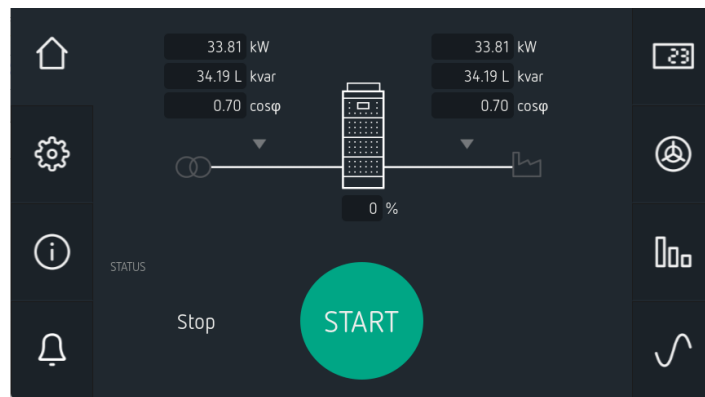

Figure 47: Home screen.
When the device has been powered on, one of the screens in **Figure 47** appears on the display.
- ② Go into the numeric values screens, , and on the screen that shows the voltage and current (**"6.2.1.- VOLTAGE / CURRENT / FREQUENCY"**):
- ③ Go into the numeric values screens, , and on the screen that shows the load parameters (**"6.2.3.- LOAD POWER AND COS φ "**):
- ④ Go back to the home screen of the device, , **Figure 47**. If there are no wiring issues, the message **"Stop"** must be displayed in the lower left-hand corner.